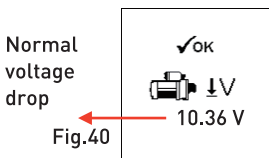

Fig.40
3. Now switch the ignition key to ON and start cranking the engine. As soon as the engine starts, the results will automatically display as shown in examples below (Fig.40&41):